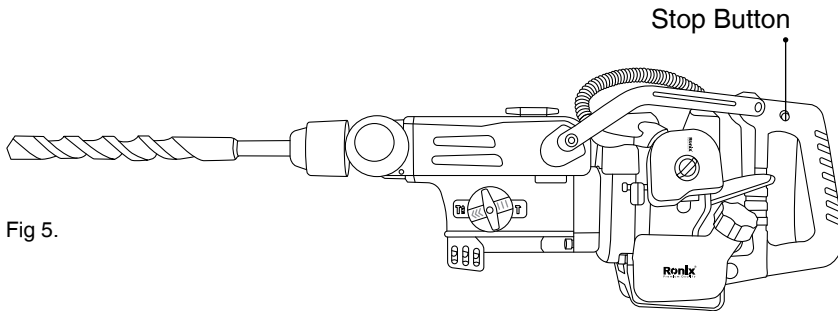

Fig 5.
- 2.Press the red button (Stop button) to stop the machine. (See Figure 5)